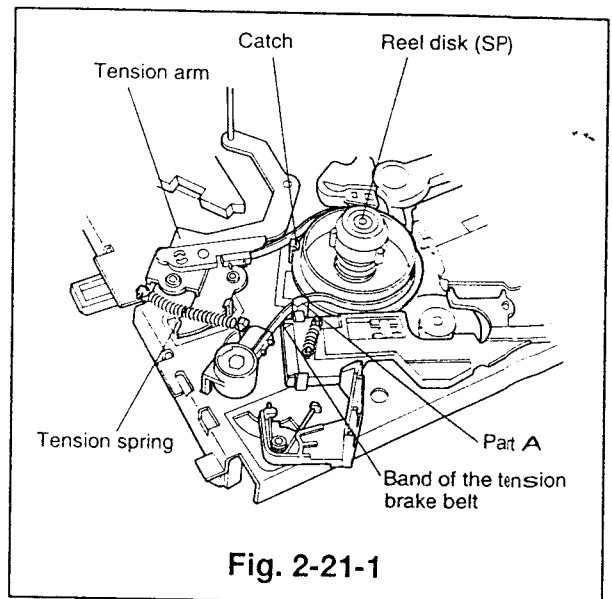

Fig. 2-21-1
- ④ Unfasten the catch shown in Fig. 2-21-1 and raise the supply reel disk upward to remove it from the shaft.
- ⑤ Fasten the tension brake belt round on the supply reel disk, taking care not to score the belt and route part B of the tension brake belt as shown in Fig. 2-21-2. (Refer to Para. 2-19 for the installation method.) (The band of the tension brake belt must pass outside of the catch shown in Fig. 2-21-1 and inside of the part A.)
- ⑥ Install the sub brake(SP) and the sub spring(SP). (Refer to Para. 2-14 for the installation method.)
- ⑦ Install the cassette housing. (Refer to Para. 2-1 for the installation method.)